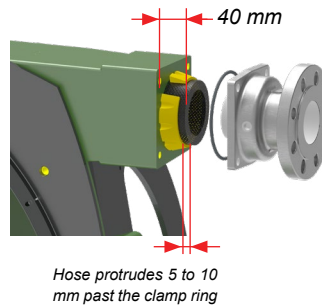

Figure 10. - Port flange without insert
9. Run the pump forward and stop when the hose is protruding 40 mm from the discharge/ upper port (Figure 10).